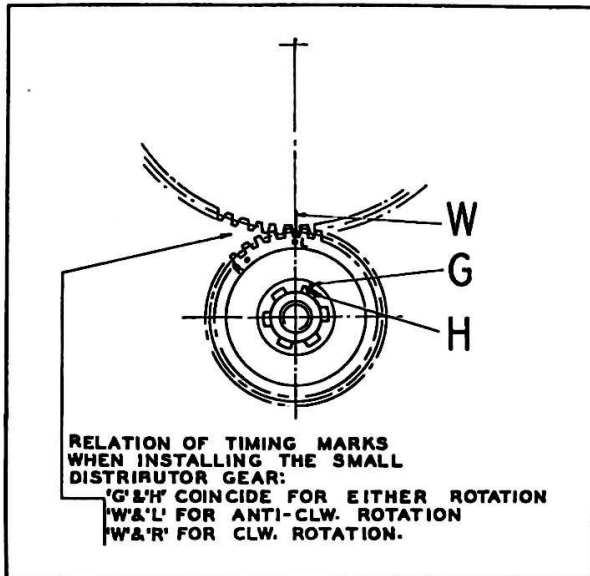

Figure 14 - Installing Small Distributor Gear on the Drive Shaft.
(1) Install the small distributor gear. The timing mark on the drive shaft spline must index with the timing mark on the hub of the small gear over one of its splines. (See figure 14.) Also, there are two timing marks adjacent to the teeth of the small gear. One is marked "R" for clockwise rotation and the other is marked "L" for anticlockwise rotation. Index the tooth marked "L" with the timing mark on the tooth of the large distributor gear.